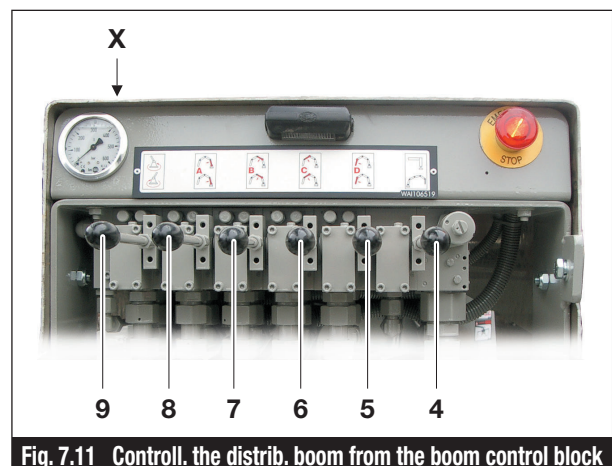

Fig. 7.11 Control. the distrib. boom from the boom control block
If the control system fails, the outriggers can be operated manually from the master control block. To do this a send person must stand at the “Outrigger/Boom” control panel and hold the control lever (Item 4, Fig. 7.11) in the UP position.
- Press control lever boom A (Item 8, Fig. 7.11) and deploy the boom package until the catch hook releases.
- Press the boom rotation control lever (Item 9, Fig. 7.11) to rotate the boom package into the working position.
- Press control lever B (Item 7, Fig. 7.11) and deploy boom element B at 120° to boom element A.
- Press control lever C (Item 6, Fig. 7.11) and deploy boom element C at 90° to boom element B.
- Press control lever D (Item 5, Fig. 7.11) and deploy boom element D at 90° to boom element B.
- Use the control levers (Items 5 to 9, Fig. 7.11) on the boom control block to move the distributor boom into the desired working position.
If the controls system fails, slewing the boom must be enabled by engaging the additional back-up controls (Item X, Fig. 7.11) by inserting a suitable screwdriver (4 mm) into the holes in the cover and pushing.